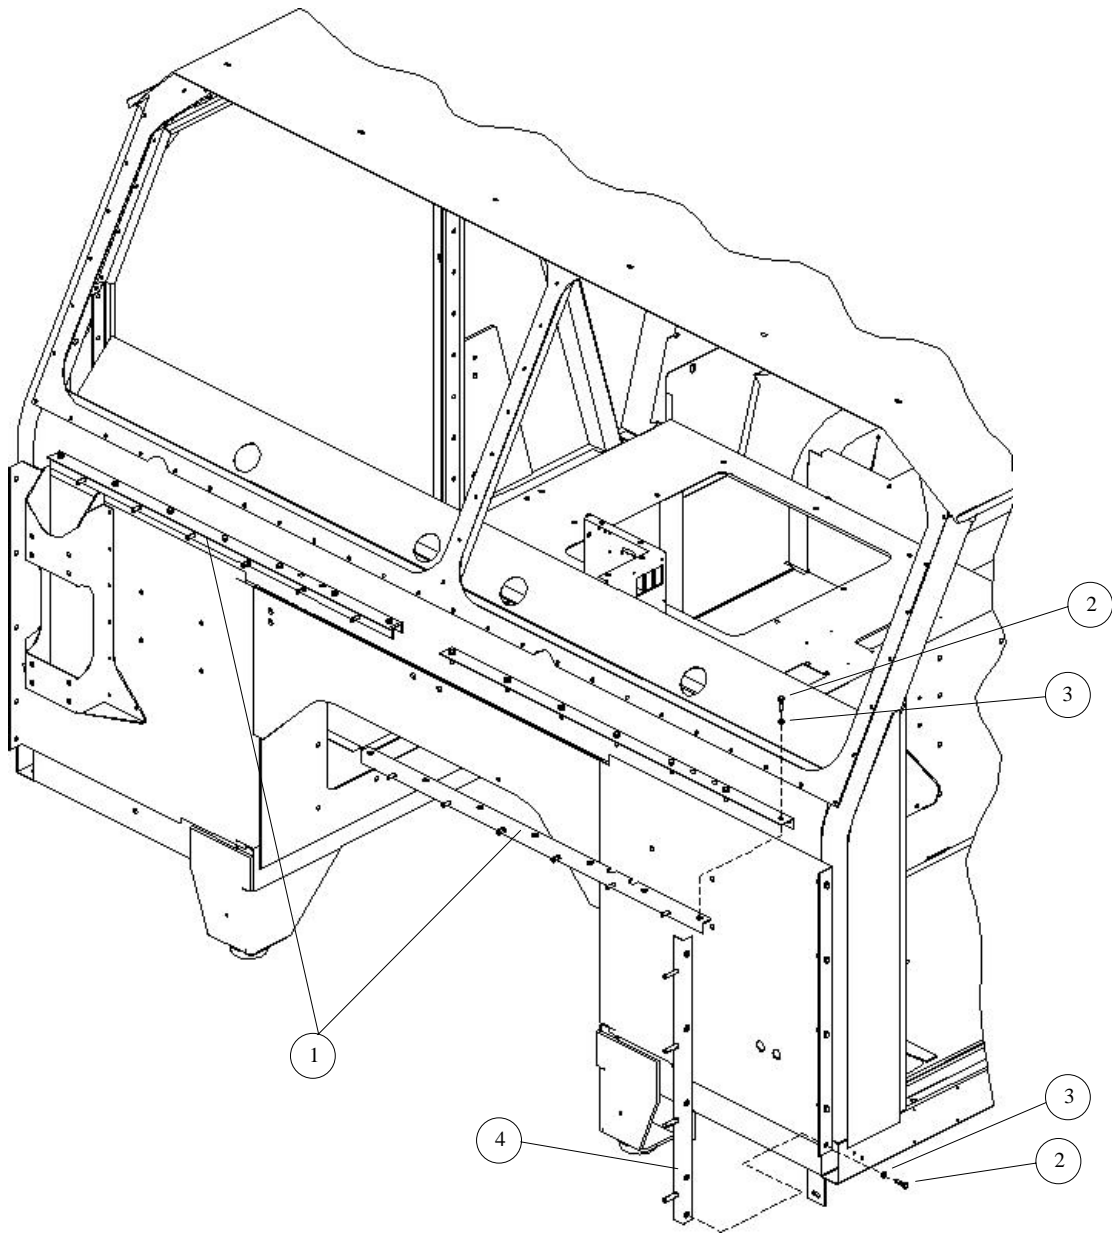

Figure 3-1. Firewall Brackets Installation.
1. Install firewall brackets as follows (see Figure 3-1):
- a. Install two upper firewall brackets (1) into position against firewall and secure each with seven bolts (2) and lock washers (3). Torque bolts to 7 lb-ft.
- b. Install one left inside firewall bracket (4) into position against driver's-side firewall and secure with five bolts (5) and lock washers (6). Torque bolts to 7 lb-ft.